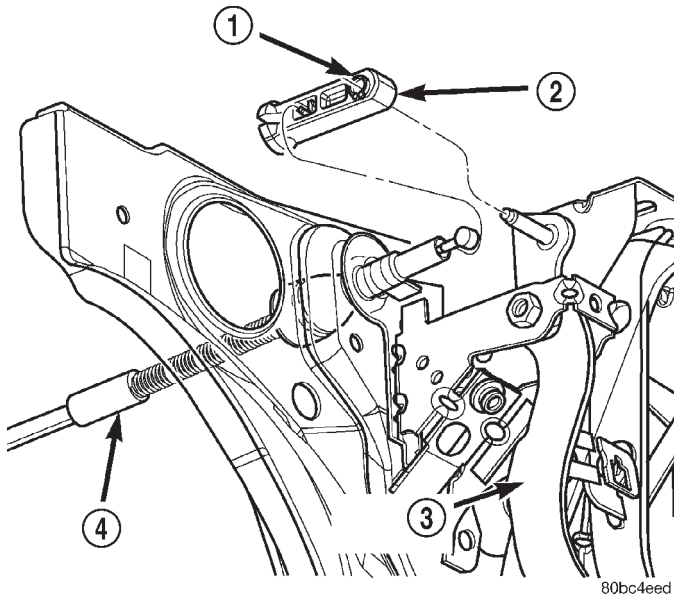

Fig. 8 Clutch Cable at Brake/Clutch Pedal Assembly
- (6) Disconnect the clutch cable from the clutch pedal spacer (Fig. 8).
- (1) Insert the clutch pedal end of the cable into position and connect the cable to the clutch pedal spacer as shown in (Fig. 8).
- (2) Verify adjuster mechanism function as follows: